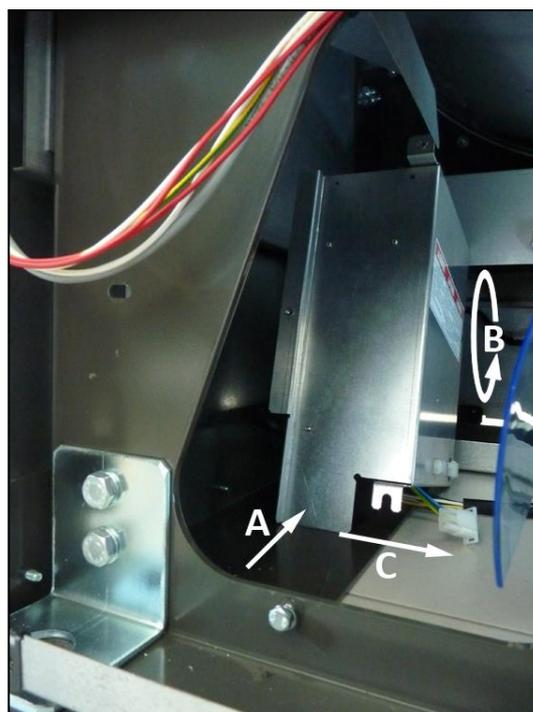

Fig. 3.33
4. Move the inverter and box assembly in direction **A** until it touches the motor support. Turn the assembly 90° as in **B** and move it in direction **C** (Fig. 3.33).